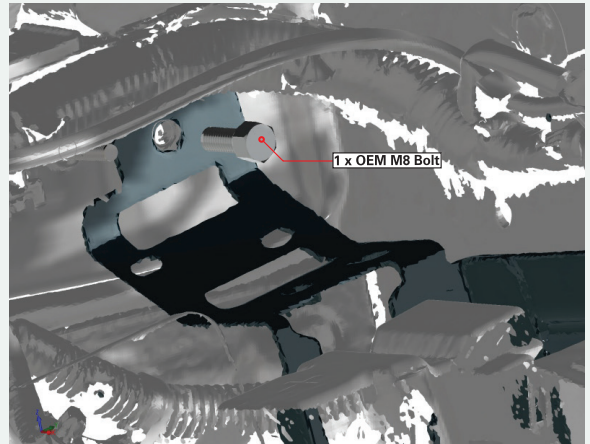

FIGURE 2B
- 5 Unscrew the OEM M8 bolt shown in FIG. 2B. Place this M8 bolt with the other 2 OEM M8 bolts as you will be using these to fit the Ryco FB9810FC bracket later.